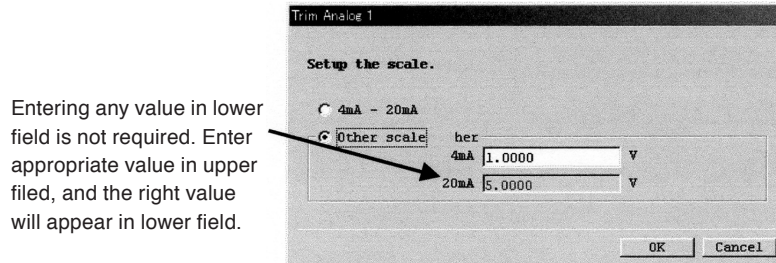

Fig.110
- ⑦ To abort the trim process, click on "Cancel" button and follow the instructions at the prompt on the screen.
- ⑧ If you selected "Other scale" at the message box as shown in Fig. 110, you can enter other scale as shown in Fig. 110. Keying in an analog value corresponding to the 4mA output (1V in this case) in the upper field (4mA setting) results in entering a corresponding value in the lower field (20mA setting) automatically.